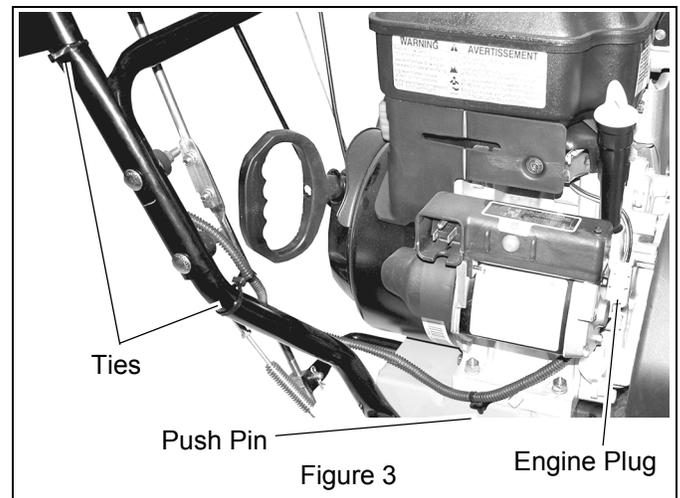

Figure 3
3. Cut wire harness ties off of the handlebar, pull push pin out of engine anchor and disconnect wire harness from engine. See Figure 3. Discard harness.
1. Connect new harness (item 2) to engine, insert push pin into engine anchor, then attach ties to handlebar. See Figures 3 and 10.